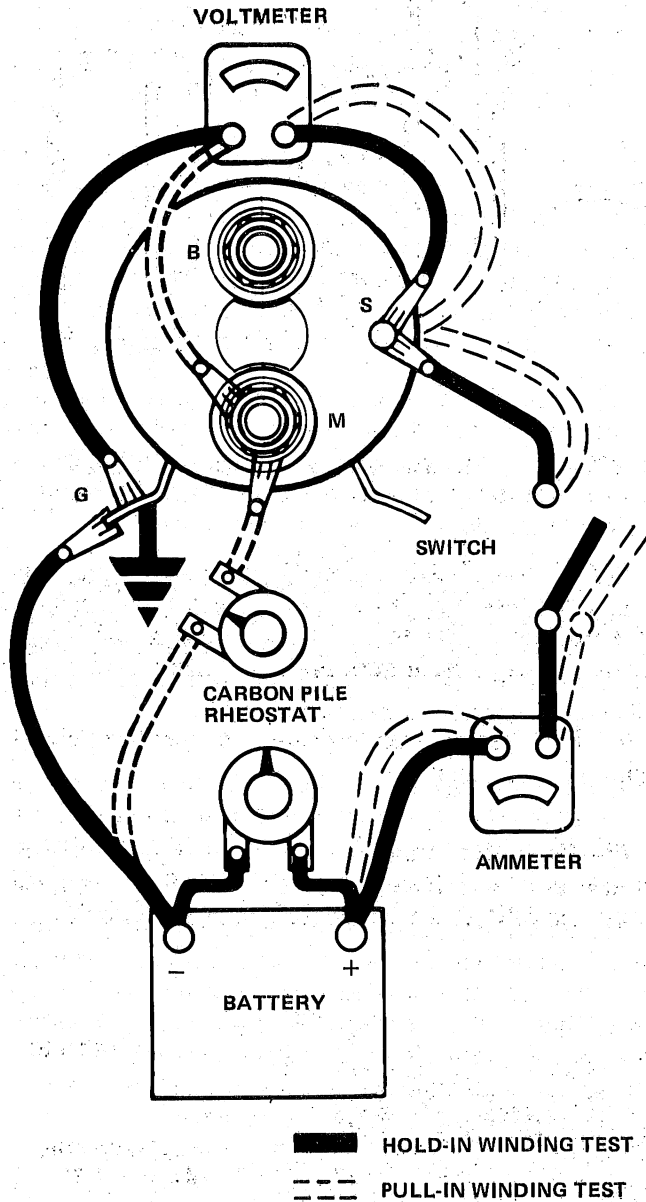

Fig. 1F-6 Solenoid Test Connections 90561
(1) Shorts to grounds—Disconnect field winding ground connection. Connect one test lamp probe to motor frame and other to field winding connector. If lamp lights, field windings are shorted to ground and must be repaired or replaced. If windings are not shorted, reconnect winding to ground. This test cannot be made if ground connection cannot be disconnected.
(2) Open circuits—Connect test lamp probes to frame and field winding connector. If lamp does not light, field windings are open. If field windings are found to be defective, frame and field winding assembly must be replaced. Windings cannot be replaced separately because of integral frame construction.
- **Solenoid**—A basic solenoid circuit is diagramed in figure 1F-1. Solenoids can be tested electrically by connecting a battery of the specified voltage, a switch, and an ammeter to the two solenoid windings. With all wires disconnected from the solenoid,
make test connections to the solenoid switch terminal and to ground to test the hold-in winding (fig. 1F-6). Use the carbon pile rheostat across the battery to decrease the battery voltage to the value listed in specifications. Compare the current flow with the value listed in Specifications. A high current flow indicates a shorted or grounded hold-in winding, and a low current flow indicates excessive resistance.
To test the pull-in winding, connect the battery across the solenoid switch (S) terminal and the Solenoid motor (M) terminal. To reduce the voltage to the specified value, connect the carbon pile rheostat between the battery and M-terminal as shown with dashed lines (fig. 1F-6) instead of across the battery as shown with solid lines. If not needed, connect a jumper directly from the battery to the M-terminal.